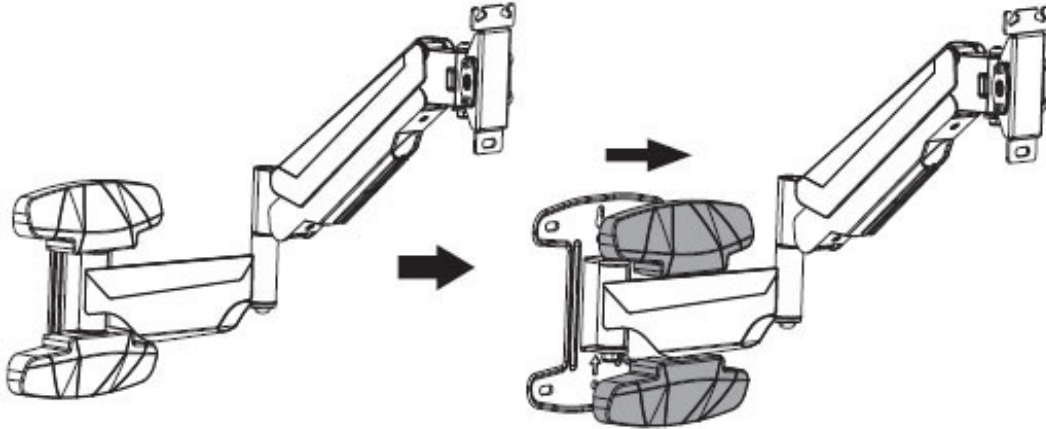

Figure 1
1. Place both hands on the decorative cover, gently squeeze to remove it from the wall plate, see **Figure 1**.